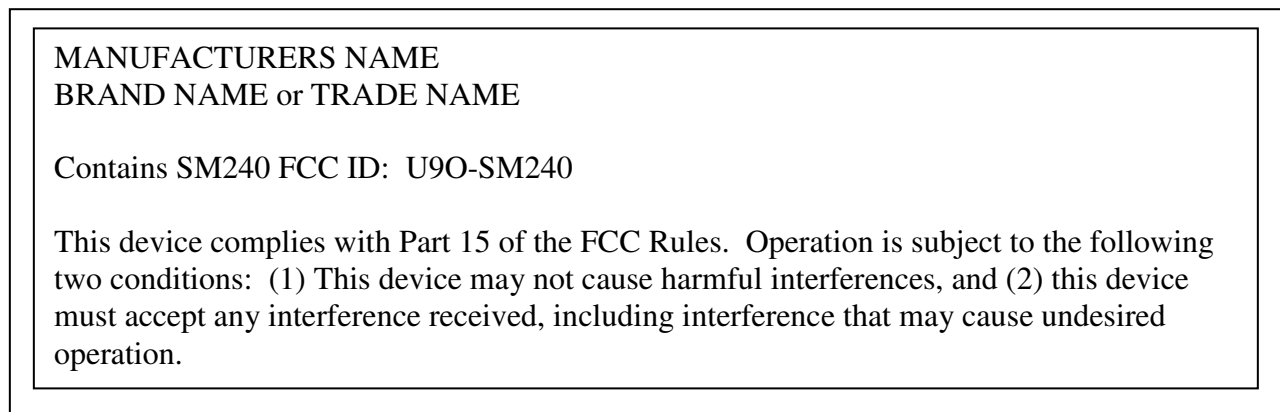

Figure 2.1 FCC Label
1. The system integrator must place an exterior label on the outside of the final product housing the SM240 Modules. Figure 2.1 below shows the contents that must be included in this label.
NOTICE: The OEM must make sure that FCC labeling requirements are met. This includes a clearly visible exterior label on the outside of the final product housing that displays the contents shown in Figure 2.1 below.